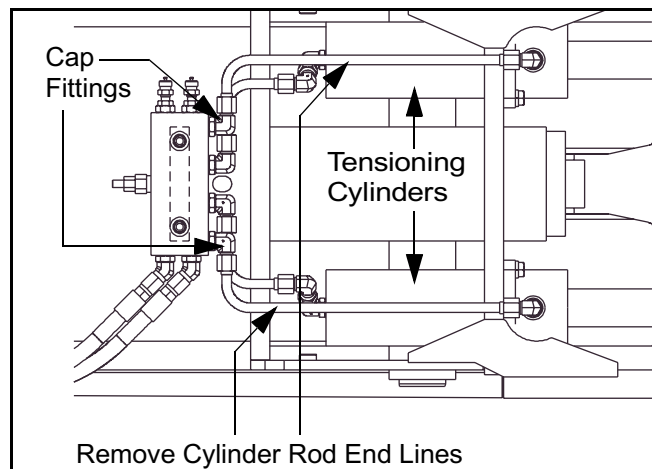

Figure 5 - 32 Track Tensioning Cylinders
- 1) Install pressure gauge (3000 psi) at test ports marked BTM and ROD on the shut-off valve (Figure 5 - 31).